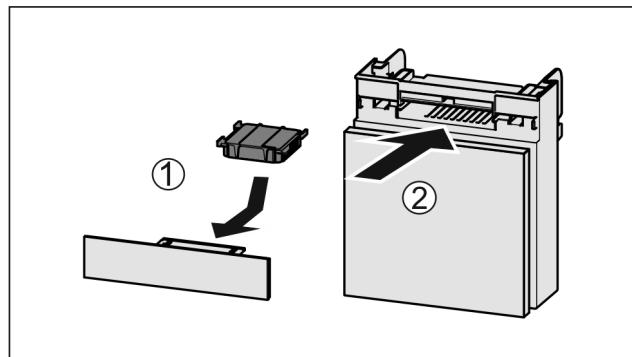

Fig. 145
- Insert the carbon filter as shown in the diagram Fig. 145 (1).
- Push the compartment in Fig. 145 (2).